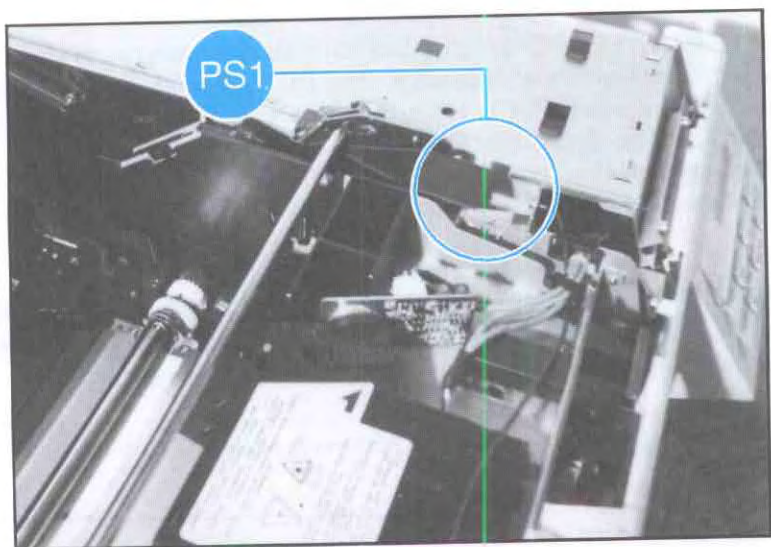

Figure 7-3. PS1: Top Cover Closed Photosensor and Actuator Mechanism
2. With the Top Cover open, check that the Sensor Flag is clear (above) sensor PS1 (see Figure 7-3).	Reform or replace the latch flag.
3. With the Top Cover open, depress the door actuator lever and check that the Sensor Flag fully blocks the sensor (see Figure 7-3).	Reform or replace the latch flag.
The toner cartridge Drum Sensitivity microswitches (SW1002 and SW1003) are located on the inner right side of the printer (see Figure 7-3). Test the switches as described below. If either switch is bad, replace the DC Controller.